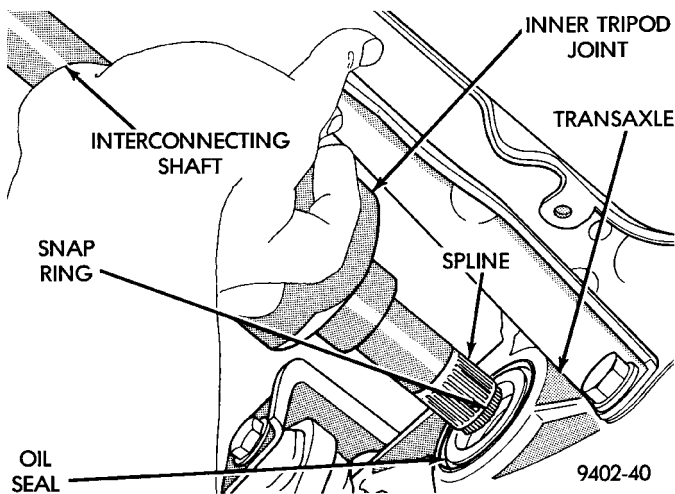

Fig. 15 Tripod Joint Removal from Transaxle
(16) Hold inner tripod joint and interconnecting shaft of driveshaft assembly (Fig. 15). Remove inner tripod joint from transaxle by pulling it straight out of transaxle side gear and transaxle oil seal. **When removing tripod joint, do not let spline or snap ring drag across sealing lip of the transaxle to tripod joint oil seal.**